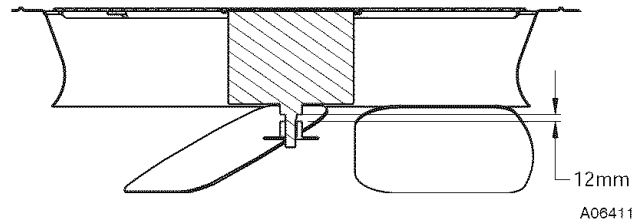

Fig. 19 - Outdoor Fan Adjustment
- 4. Adjust fan height as shown in Fig. 19.